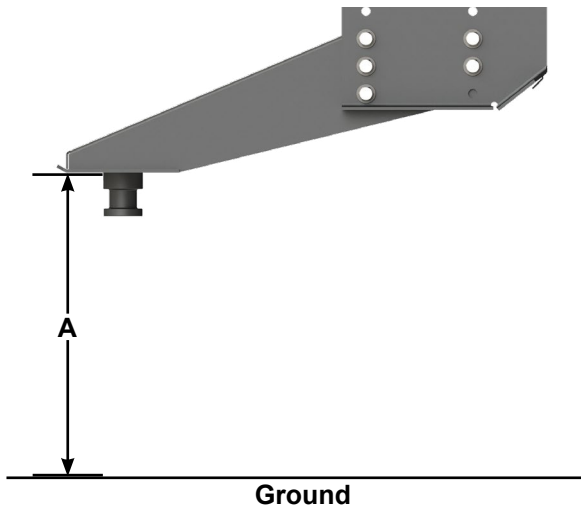

Fig.1
2. Measure from the ground to the bottom of the kingpin plate on the current pin box. Record this dimension as A (Fig.1).